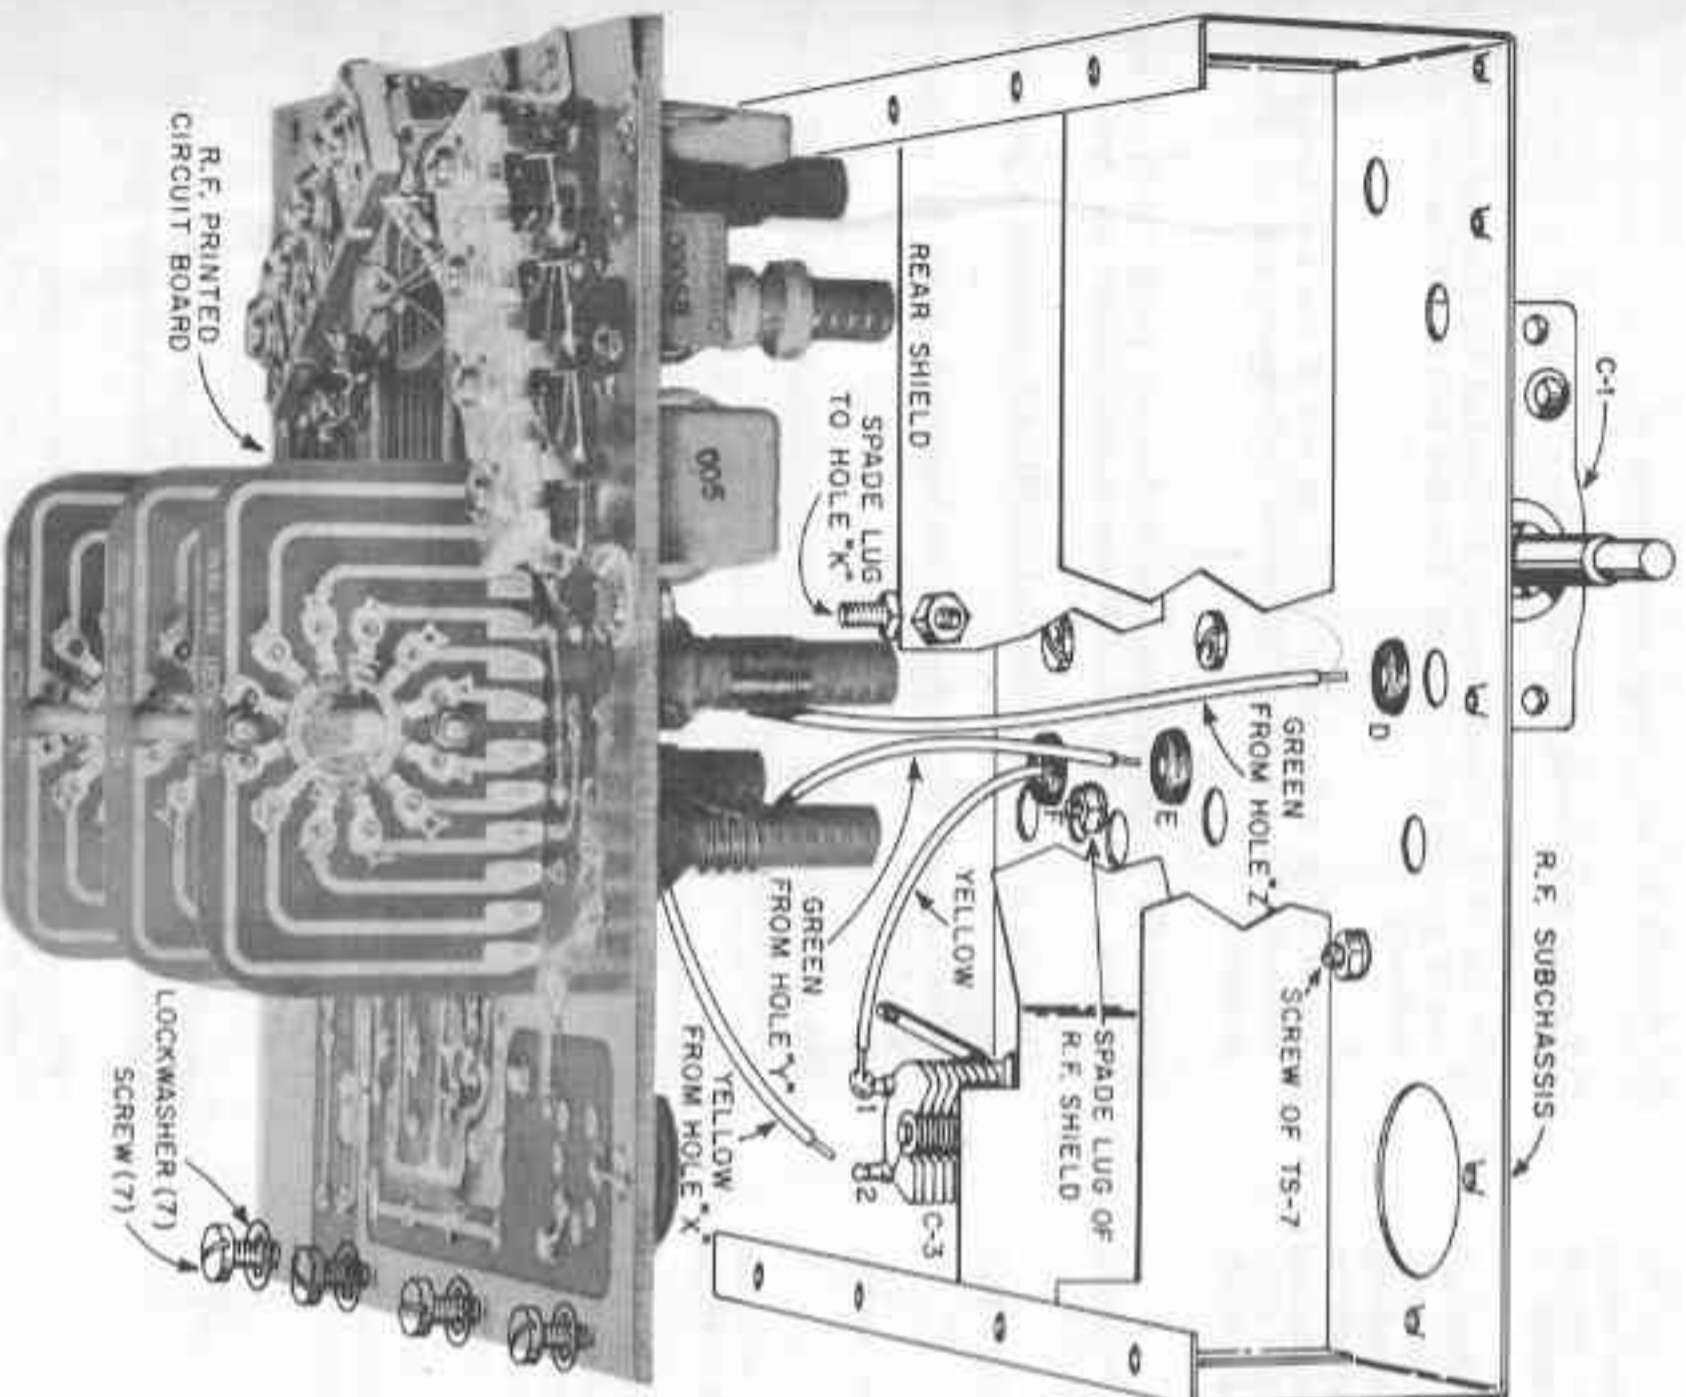

FIGURE 19. MOUNTING THE RF SUBCHASSIS
SEE FIGURE 19.
- ☑ Position the RF printed circuit board and the RF subchassis as shown in Figure 19.